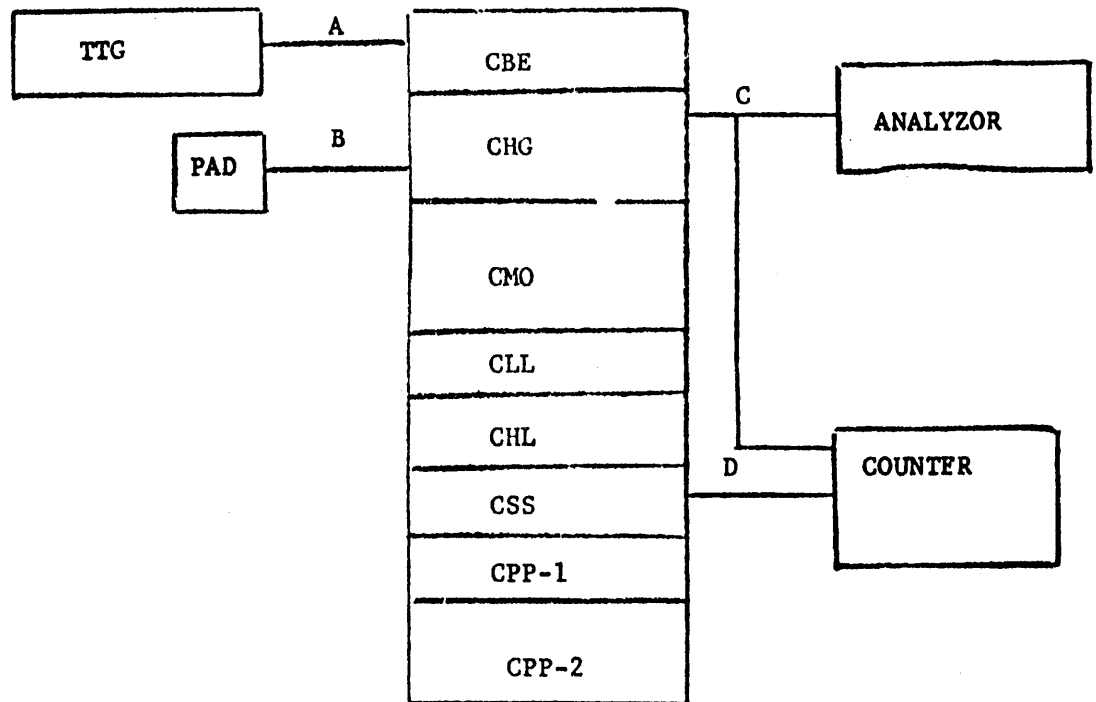

Figure III-6-1: TEST EQUIPMENT SET-UP FOR CPO
III-6-1: Testing of the SBG System (figure III-6-1)
- (e) Connect test equipment as shown in Figure III-6-1.
(1) OSCILLATOR ALIGNMENT